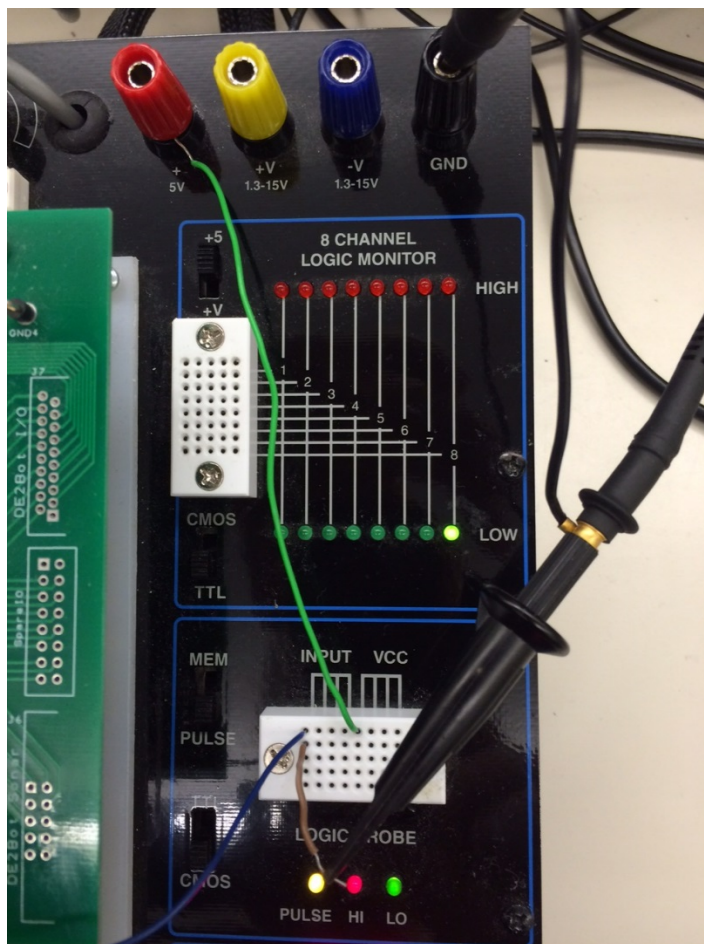

Figure 12. Connection of probe to the same signal already connected to the logic probe, along with a probe ground connection to the black terminal.
- I. As your final step in the lab, move the Channel 1 scope probe from the calibration signal to the output of the function generator, which should still be connected to the logic probe. Connect the probe ground to a ground on the PF-505, too. Using another short wire in the logic probe block is the easiest way, since the ground connection terminal is nearby, as shown in Figure 12. Set the function generator frequency to be about 1000 Hz (1 kHz), and the display on Channel 1 should be quite similar to what it was before, since that was also a 1 kHz square wave. Since the new signal is about 5 V in amplitude, and the calibration signal was about 2 V, you should turn the vertical scale knob (under the “1” button) one step counterclockwise to make the signal fit on the screen vertically. But since the signal on Channel 2 (the original calibration input) is not exactly the same in frequency, nor is it synchronized, you will see a “rolling” display. You may be able to minimize this by carefully adjusting the frequency dial of the function generator (Figure 13), but it does not matter. It simply illustrates that when using an oscilloscope, it is necessary to lock the display relative to some event on some signal of interest. This is called *triggering*, and in the default case resulting from the “autoset” you did earlier, it is triggering on the rising edge of Channel 1, and events on Channel 2 are displayed wherever they happen to occur relative to Channel 1.